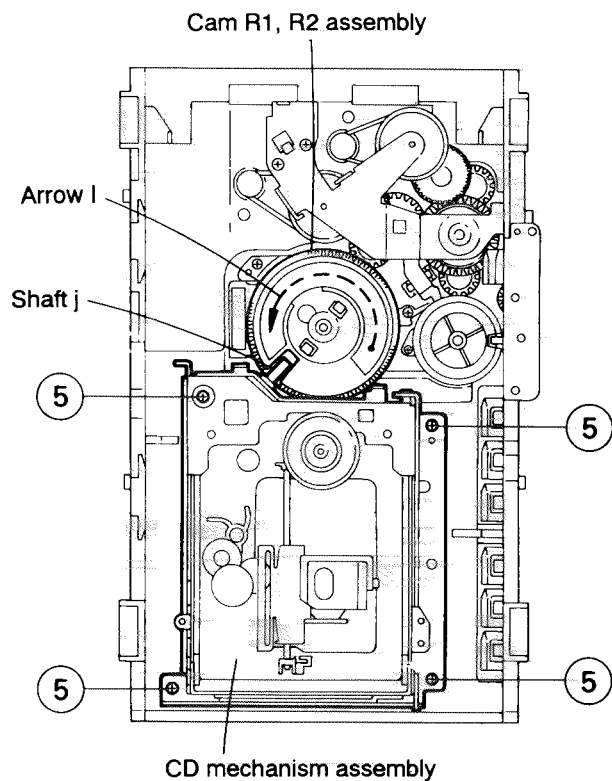

Fig. 2-19
**Removing the CD mechanism assembly** (See Fig. 2-19).
1. While turning the cams R1 and R2 assembly in the arrow direction (I), align the shaft (J) of the CD mechanism assembly to the position shown in Fig. 2-19.
2. Remove the four screws (5) retaining the CD mechanism assembly (See Fig. 2-19).